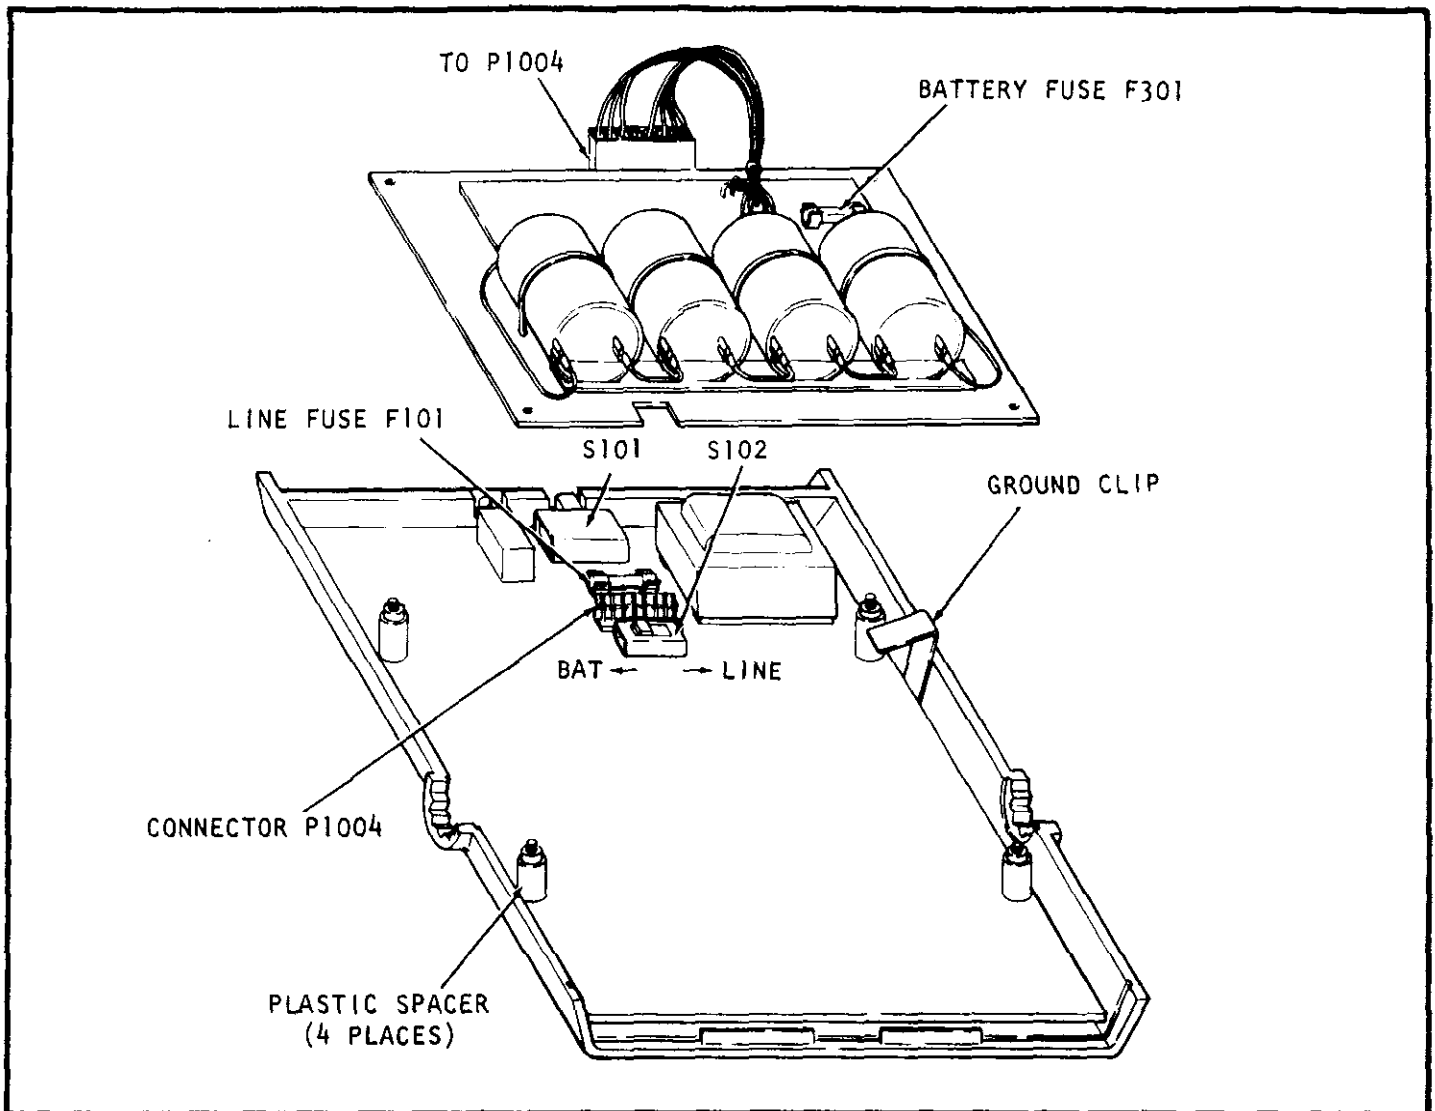

FIGURE 2-2. Battery Pack Installation.
- c. Set the BAT/LINE switch to the BAT position shown in Figure 2-2. Note that the battery pack will not operate properly if this switch is not in the BAT position.